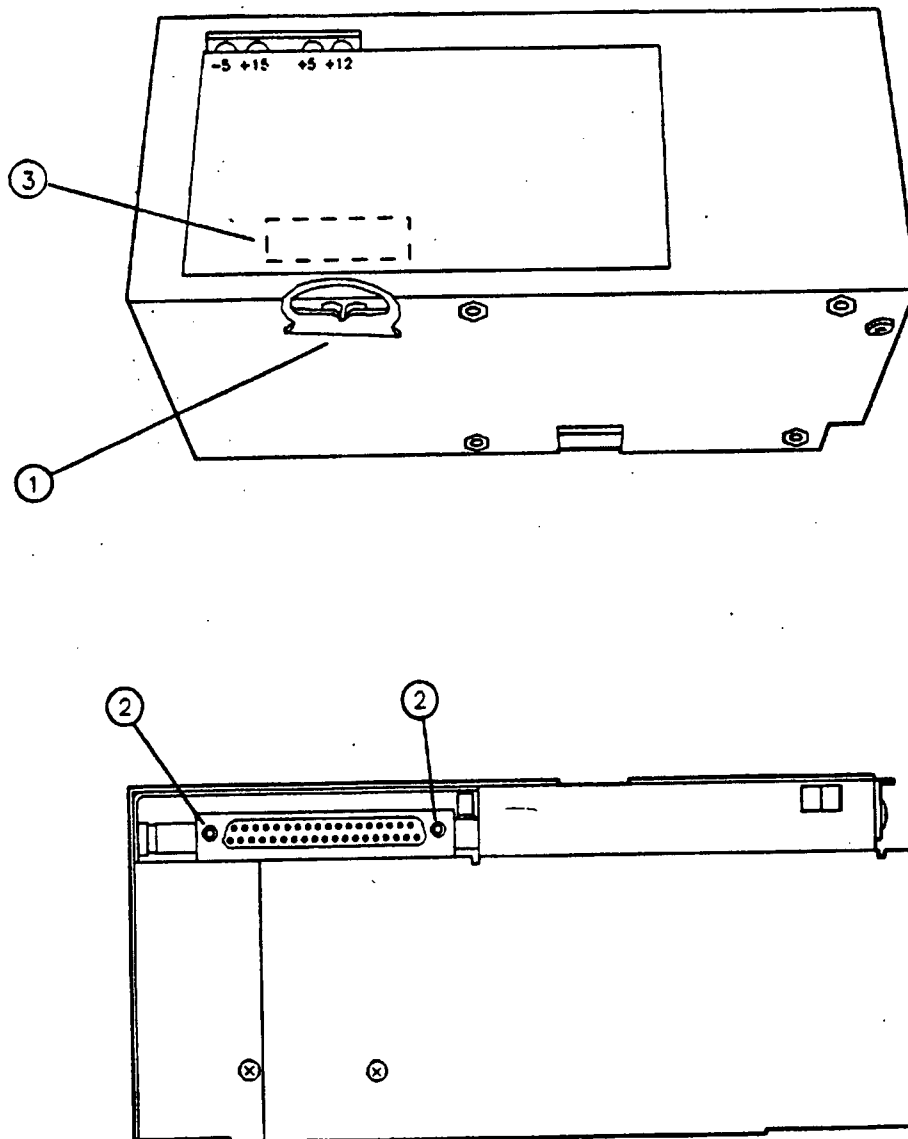

Figure 3-28. A8 Power Supply Replacement
4. Grasp the power supply pull-tab (1), pull straight up, and remove the A8 assembly from the instrument chassis. See Figure 3-28.